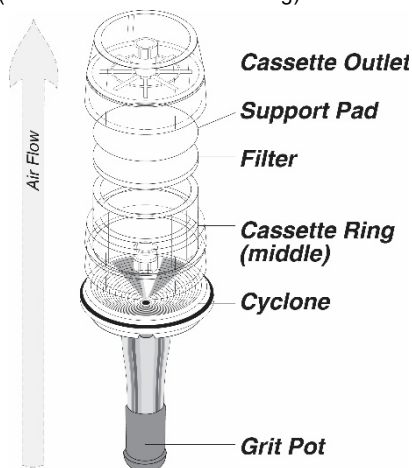

Figure 1. Exploded view of cyclone filter cassette assembly
2. Select a filter and support pad as specified in sampling method. Insert cassette ring (middle) section into cassette outlet. *See Figure 1.*